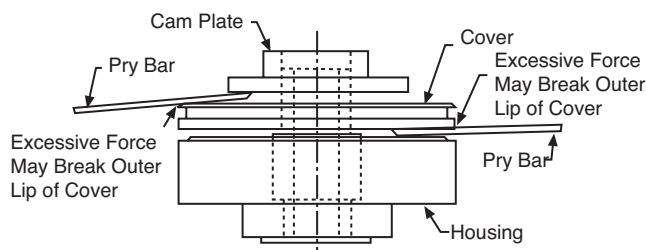

Figure 11 – Cam Plate and Cover Removal
5. Remove the cam plate from the face of the rotor. Do not pry on the outer edge of the cover. Excessive force may damage the lip of cover. Refer to Figure 11.
7. Refer to Figure 11 and pry off the cover. Use care as excessive force may damage the cover.